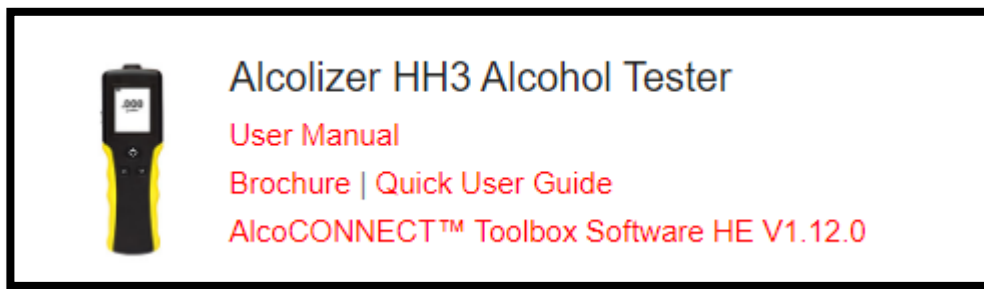

Figure 21 - AlcoCONNECT Toolbox Software Download Link
- Select AlcoCONNECT Toolbox Software on <https://www.alcolizer.com/software-updates> (Refer Figure 21).